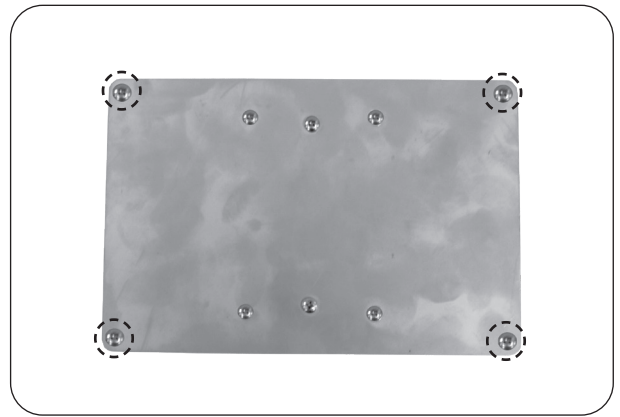

Fig. 41-1 Remove 4 large screws
2. Using a phillips screwdriver, remove the 4 large screws found on the cover of the power supply box (see Fig. 41-1).